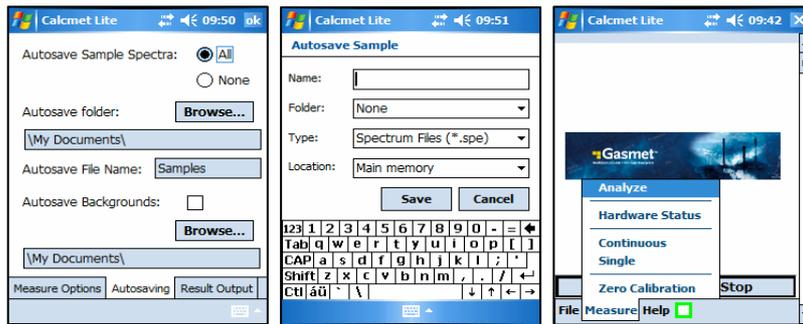

Figure 15. Save spectrum files.
- Store the sample spectra (Figure 15). Sample spectra can then be downloaded onto the desktop and analyzed using Calcmnet software. Go to File → Settings → Autosaving tab → Autosave Sample Spectra: All. Click “Browse...” to specify the folder and the name given to the saved spectrum files. Use the “built in” keyboard to enter the spectrum name. Be sure that the analysis is switched OFF. Go to Measure and uncheck Analyze.